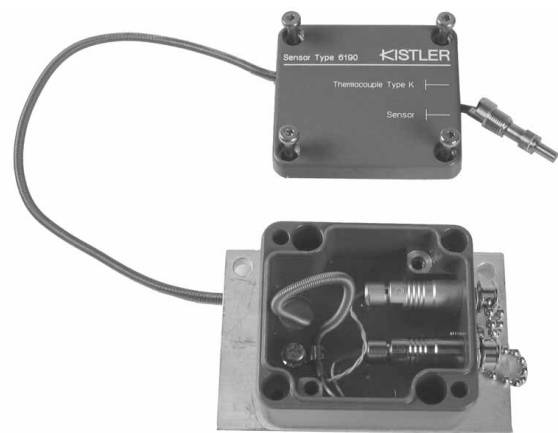

Fig. 8: Shortening the cable
Intermediate cable lengths (e.g. 0,6 m cable length) can be realised by retracting the excess cable length into the connection housing and securing it. An Allan key (2,5 mm) and a Phillips screw driver are required (see Fig. 8).